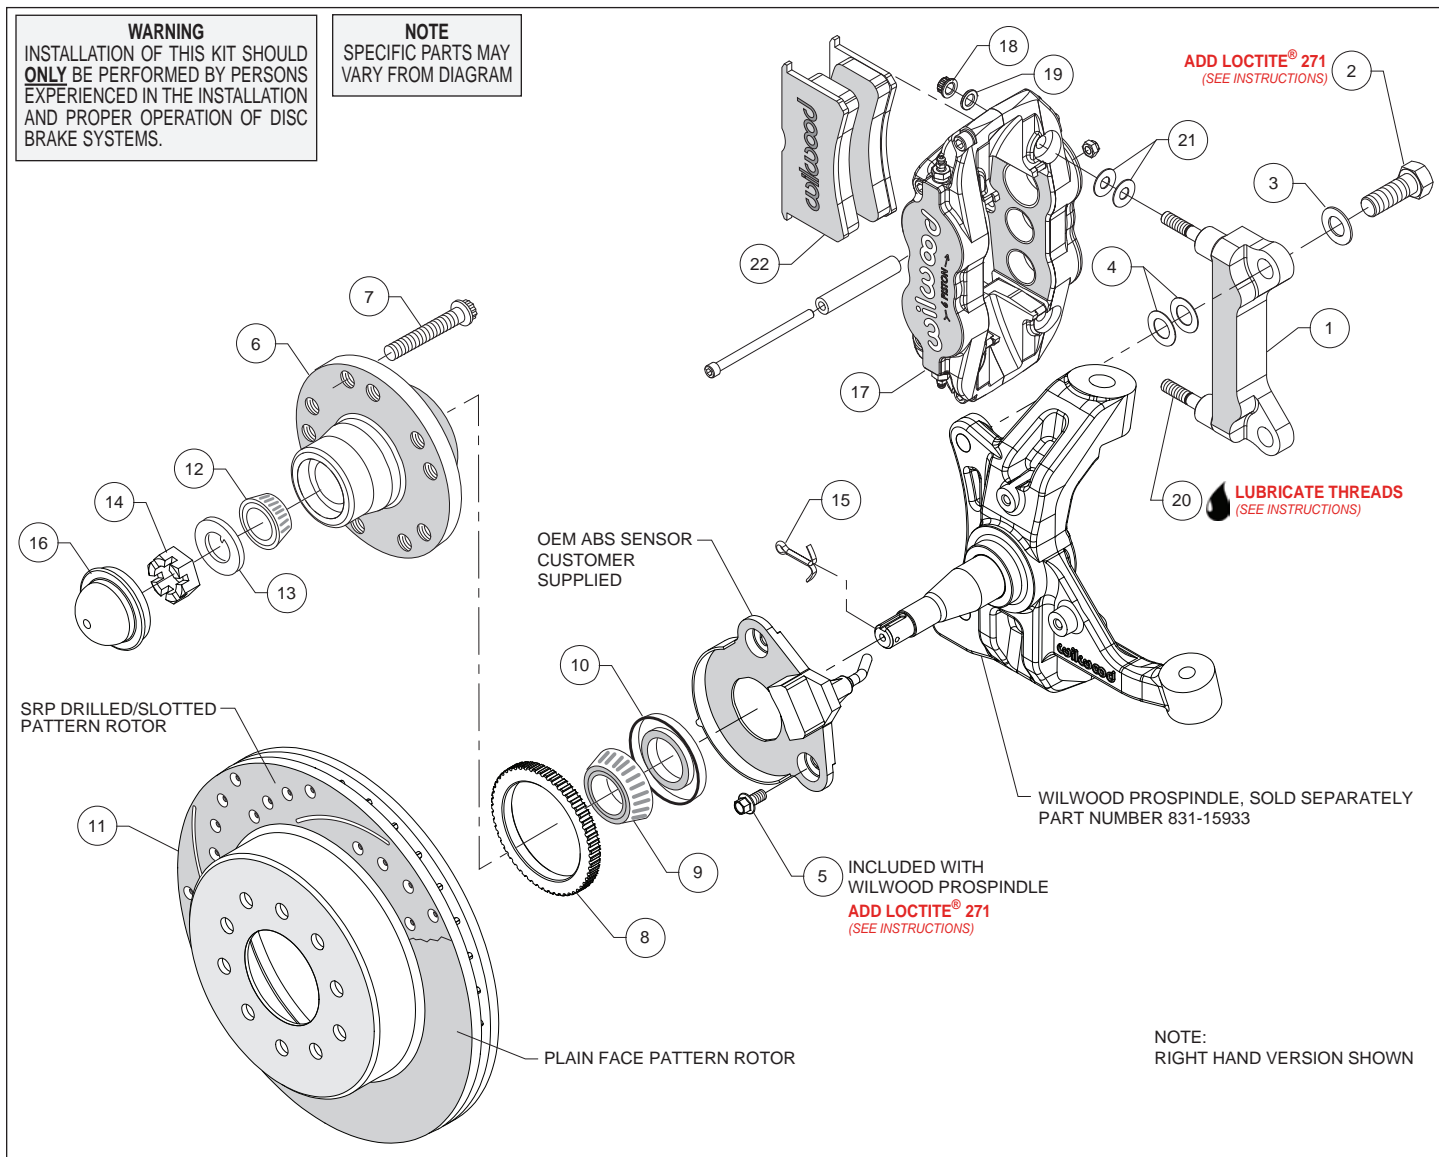

Figure 1. Typical Installation Configuration
**Assembly Instructions** (numbers in parenthesis refer to the parts list and Figure 1 on the preceding pages):
- For vehicles equipped with ABS, install the OEM ABS sensor (customer supplied) to the spindle using bolts (5) as shown in Figure 1 and Photo 1. Temporarily tighten the mounting bolts.
- The caliper mount bracket (1) should initially be installed with clean, dry threads on the mounting bolts. Orient the bracket, as shown in Figure 1 and Photo 2, and install using bolts (2) and washers (3). Initially place two .024" thick shim (4) on each bolt between the bracket and spindle, Figure 1. Temporarily tighten the mounting bolts. **NOTE:** The bracket must fit squarely against the mount bosses on the spindle. Inspect for interference from casting irregularities, machining ridges, burrs, etc. Later, after the caliper alignment has been checked, the mount bolts will be secured using red *Loctite*® 271.
- Install wheel studs (7) into the hub (6), Photo 3. Torque to 77 ft-lb. **NOTE:** There are two five lug patterns in the hub (5 x 4.75 and 5 x 5.00). Ensure the correct hub stud pattern is being used to fit the wheel application.
- For vehicles equipped with ABS, carefully press the ABS ring (8) onto the backside of the hub (6) as shown in Figure 1 and Photo 4.
- Pack the large inner bearing cone (9) with high temperature disc brake bearing grease (available from your local auto parts store) and install into the backside of the hub (6), Photo 5.
- Slide the hat/rotor (11) onto the hub (6), Photo 7. **NOTE:** The hat must fit flush against the hub face or excessive rotor run out may result. Install three lug nuts (finger tight) to keep the hat/rotor in place while continuing with the installation.
- NOTE:** This kit contains distinct right and left hand calipers that must be mounted in a specific direction, as described below. Lubricate the caliper mounting studs (20) with lightweight oil. Initially place two .035" thick shims (21) on each stud between the caliper and the bracket, as shown in Figure 1 and Photo 8. Mount the caliper (17) onto the bracket (1) using lock nuts (18)
and washers (19), Figure 1. Temporarily tighten the lock nuts. Ensure that the caliper is mounted so that the largest pistons are at the rotor exit end of the caliper, in relation to the direction of rotor rotation. View the rotor through the top opening of the caliper. The rotor should be centered in the caliper, Photo 9. If not, adjust by adding or subtracting shims (4) between the bracket and the spindle. Always use the same amount of shims on each of the two mounting bolts. Once the caliper alignment is correct, remove the bracket mounting bolts one at a time, apply red *Loctite*® 271 to the threads, and torque to 140 ft-lb.